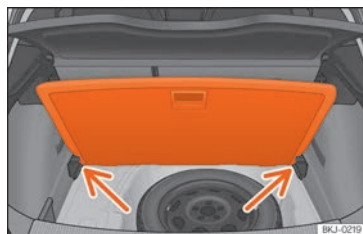

Fig. 139 Variable boot floor: tilted position.
- Rest the floor on its housings »» Fig. 139 (arrows).